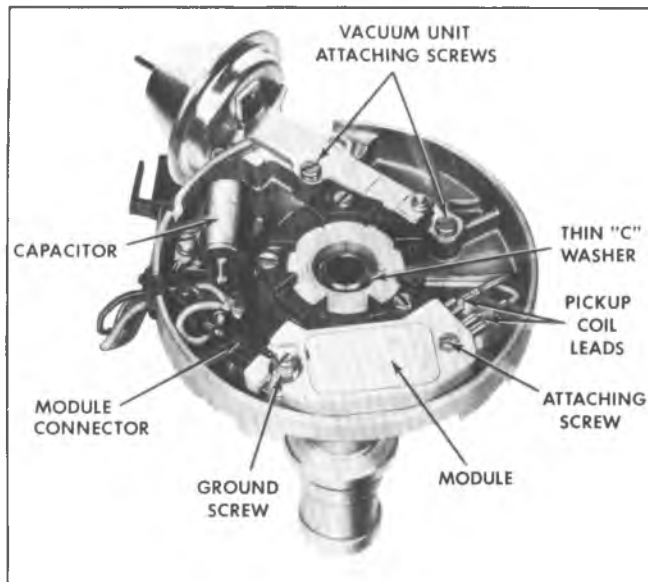

Fig. 8i-Top View of Distributor Housing
Replacement (Fig. 8i)
7. Remove lock ring from top of pole piece and plate assembly (fig. 8i) and remove pole piece and plate assembly from distributor housing.
9. Install lock ring (fig. 8i) and then connect green electrical lead of pole piece and plate assembly to G terminal of module. Then connect white lead of pole piece and plate assembly to W terminal of module.